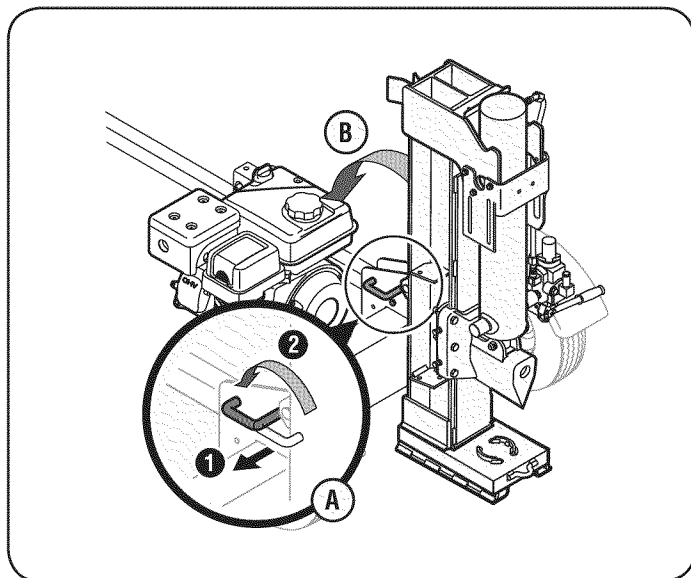

Figure 4
15. Pull out the vertical beam lock, rotate it back, and pivot the beam to the horizontal position until it locks, being careful to avoid any possible pinch points. See Figure 4.